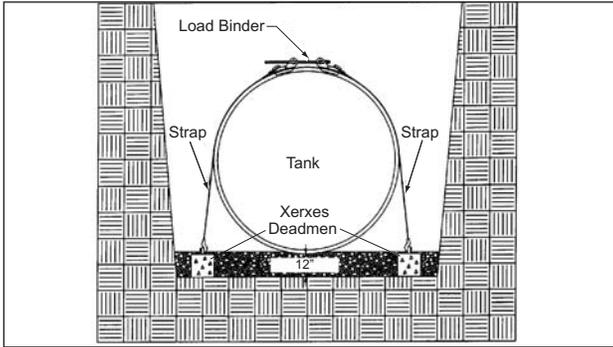

FIGURE 7-6
7.6.2. When using the MOH strapping system, the placement of components is critical. (See FIGURE 7-6.) See separate Xerxes document, Man-Out-of-Hole (MOH) Straps Instructions.